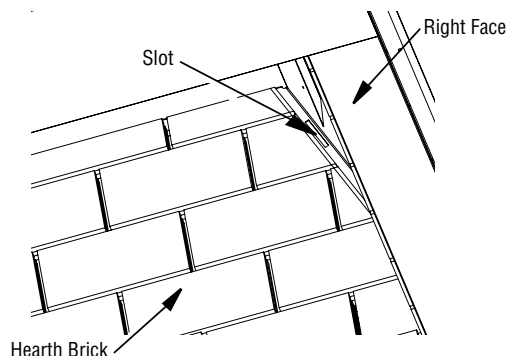
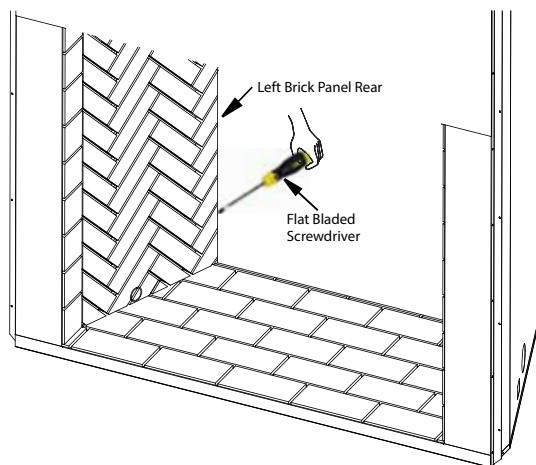

Figure 29 - Slots for Brick Panels
Figure 29A- Tight Joint Adjustment
4. Install the left and right brick panels. Place left brick panel inside the fireplace (there is a bracket with 2 tabs on the bottom of each brick panel). Angle the panel and position it so the tabs are lined up with the slots in the bottom of the fireplace. Once they are lined up, lift the left brick panel into position (**Figure 29**). Next, take a large flat bladed screwdriver and apply pressure at the rear of the panel and adjust so there is a good tight joint between the left brick panel and left leading brick panel (**Figure 29A**). **NOTE: Large bladed Screwdriver is to be used only on the rear side of the panel. The use of excessive force when adjusting joints can cause panels to chip.** Repeat steps to install the right brick panel.